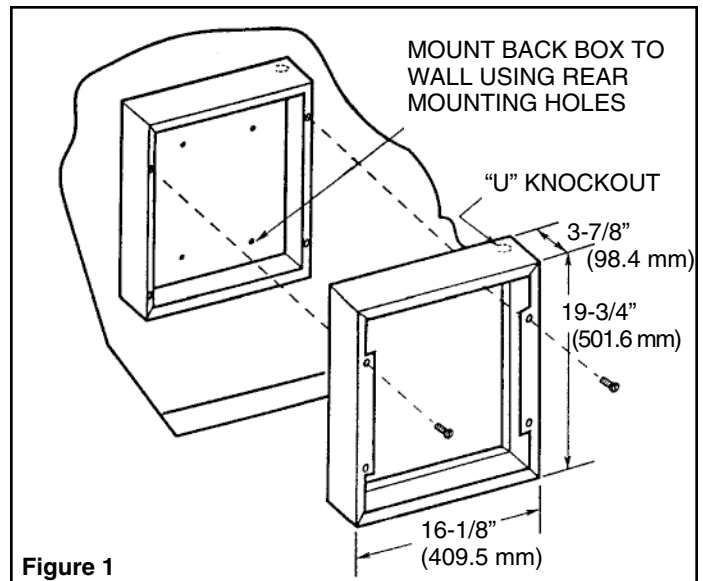

Figure 1
Installation of Back Box with Cat.No. WIF-SMFL-W or WIF-SMF-S - Surface Mounting Frame (See Figure 1)
- a. Run a power supply cable into the area to the upper right hand corner of the mounting frame shown in figure 1.
- c. Secure the frame in position over the box with the screws provided as shown in figure 1.